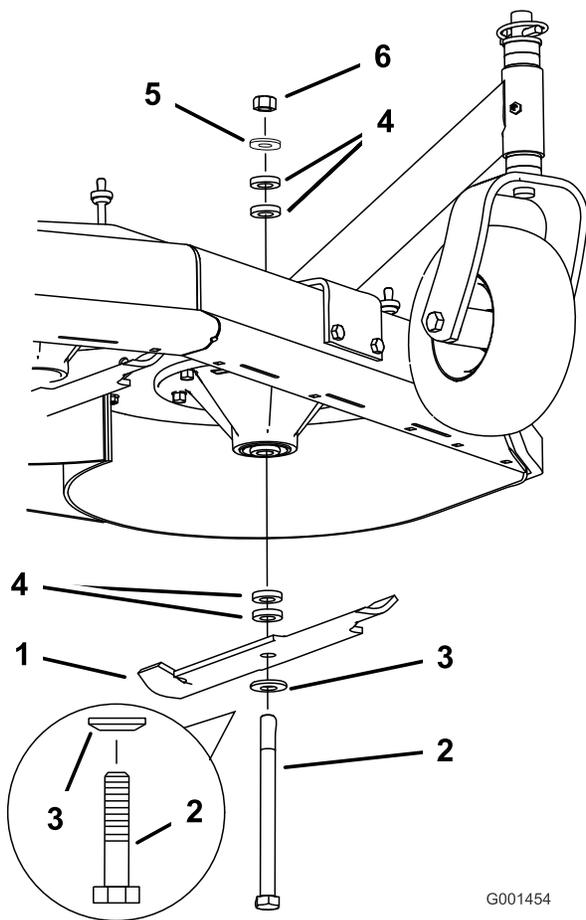

Figure 56
2. Remove the nut, blade bolt, curved washer, blade, spacers, and thin washer from the spindle (Figure 56).
1. Install the curved washer and then the blade onto the bolt. Select the proper number of spacer(s) for the height-of-cut, and slide the bolt into the spindle (Figure 56).